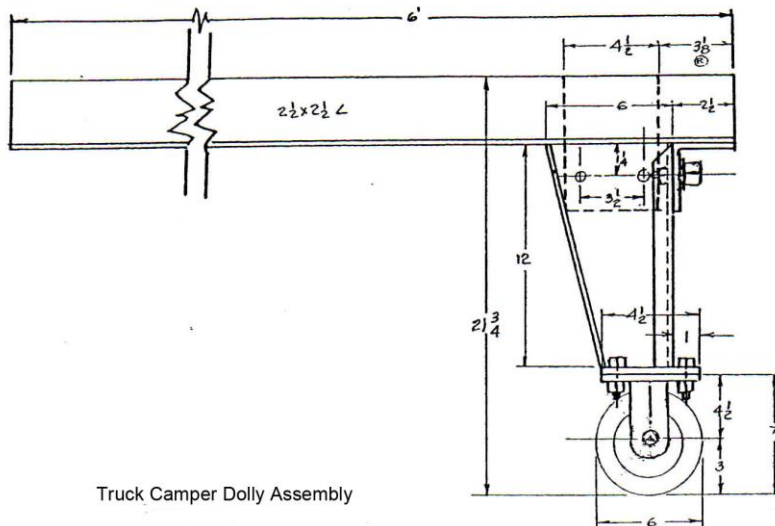

Figure 3.
3. Next bolt the casters to the legs. Use bolts, washers, and locknuts furnished, with bolt heads up. Two legs have swivel casters with locks and two legs have rigid casters. Both swivel casters are on the rear end of the dolly and both rigid casters are on the front end of the dolly. (See Figure 3)